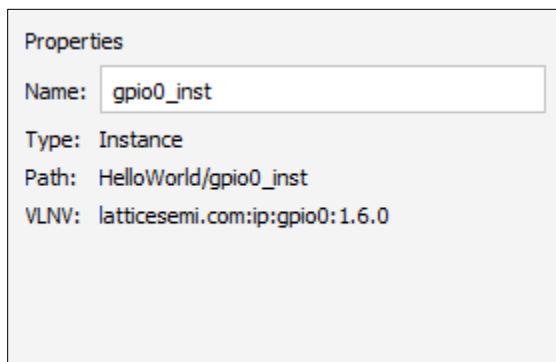

Figure 2.77. Object Properties
1. Select the object from List view of the Design View. Information of the selected object is shown in the **Properties** area (Figure 2.77).